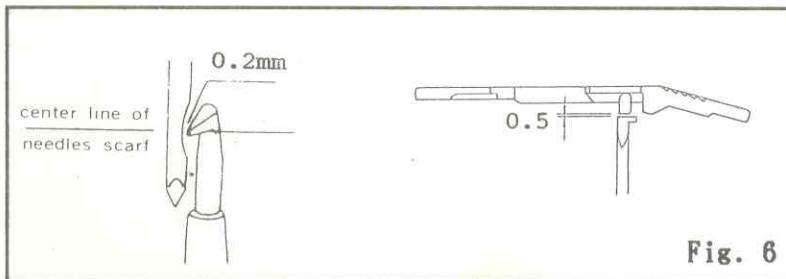

Fig. 6
4. Fasten the needle-bar screw (SA26), put the needle bar protective cover (A101R) back, and then readjust the clearance between the needle and looper (A300) according to Fig.6.
4. Ajuste el tornillo (seguro de aguja), ver la Fig.6.
4. Aperte o parafuso da barra de agulha (SA26) e reajuste a folga (A101R) entre a agulha e o looper (A300), de acordo com a Fig.6.
, ver la Fig.6. | 5. coloque o suporte
(SA03) Fig 6. |